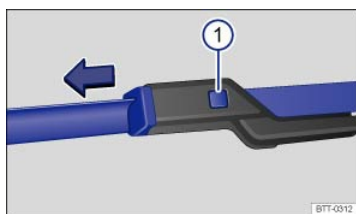

Fig. 169 Changing the windshield wiper blades.
- Press and hold the release button ⇒ Fig. 169 !.